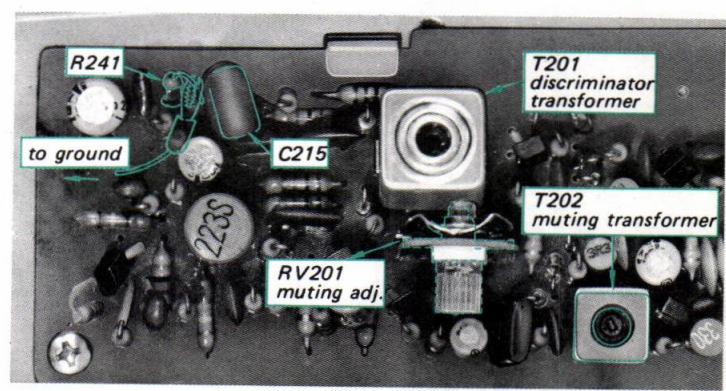
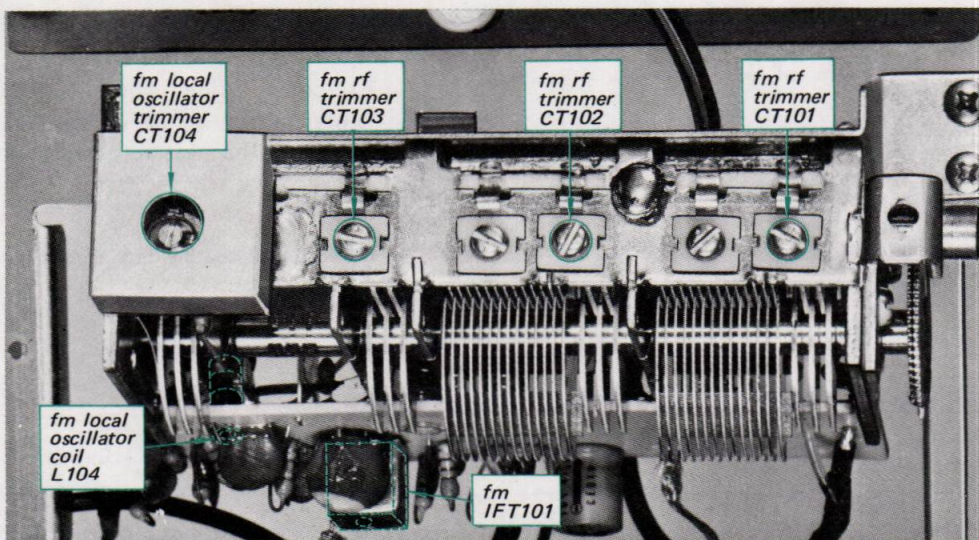

Fig. 3-2. Interruption of afc circuit and parts location
Fig. 3-4. Parts location
5. Short the connection point of R242 and C215 (AFC circuit) to ground as shown in Fig. 3-2.
3. Turn the core of transformer IFT101 or T201 (bottom core) (see Fig. 3-2 or Fig. 3-4) with the alignment tool to obtain maximum output.
3. Short the connection point of R242 and C215 (AFC circuit) to ground as shown in Fig. 3-2.
3. Turn the top core (secondary side) of discriminator transformer T201 (see Fig. 3-2) with a hex-head alignment tool to obtain a null-point reading on the tuning meter. If the discriminator transformer (T201) is not aligned correctly, some deviation on the tuning meter will be observed.
- Turn the knob of RV201 (see Fig. 3-2) fully clockwise on the fm i-f and discriminator board.
- Short the connection point of R242 and C215 (AFC circuit) to ground as shown in Fig. 3-2.
4. Short the connection point of R242 and C215 (AFC circuit) to ground as shown in Fig. 3-2.
3. Check the dial scale for a calibration accuracy of ±200 kHz from the carrier frequency of the station. If the dial-accuracy deviation exceeds this limit, turn the local-oscillator coil L104 slightly as shown in Fig. 3-4 until optimum dial calibration is obtained.
4. Tune the receiver to the highest-frequency station in your locality. If the dial-calibration error is excessive, adjust local-oscillator trimmer CT104 (see Fig. 3-4) to obtain maximum calibration accuracy.